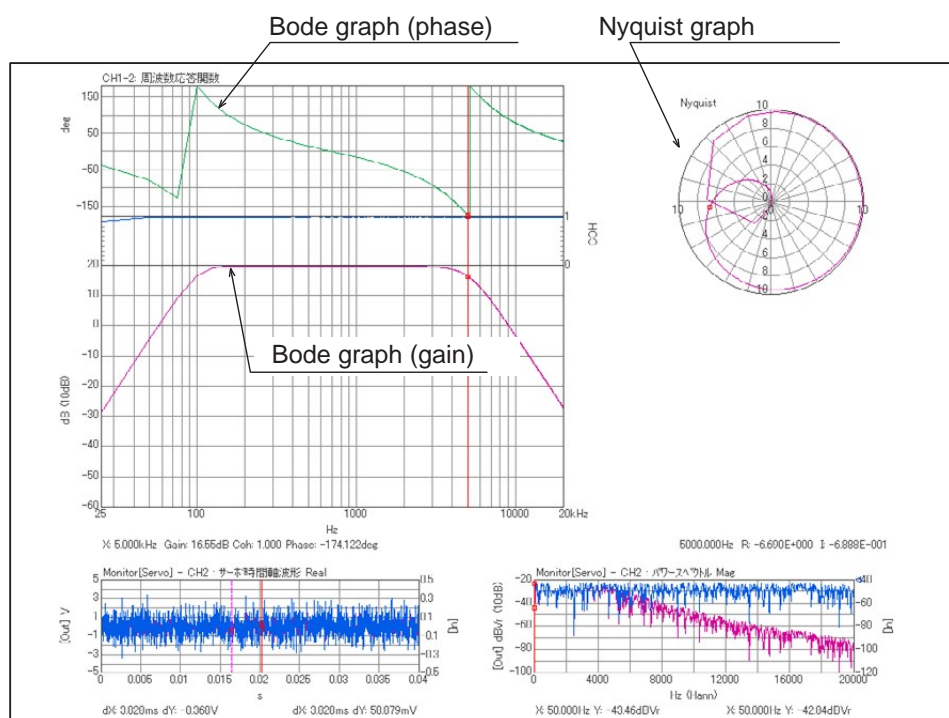

Figure 4: Example of filter frequency characteristics (FFT mode, single range)
6. Start the measurement by pressing [START] button on the command tool bar. Display the measurement result in figure 4. The measurement time is approx. 3 seconds in this condition.